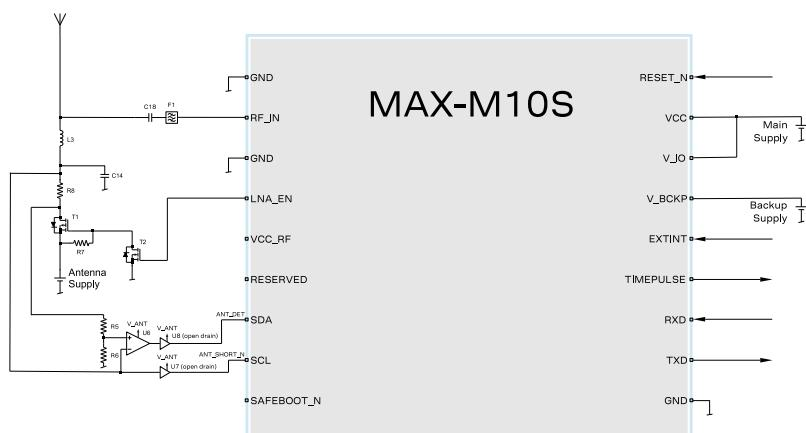

Figure 23: 3-pin antenna supervisor design
- Passive or active antenna can be used. The active antenna can be supplied either with the VCC_RF output from MAX-M10S or from an external supply as shown in Figure 23.
- UART and I2C communication interfaces are available. I2C PIOs (SDA and SCL) can be used in the case of 3-pin antenna supervisor design as shown in Figure 23.